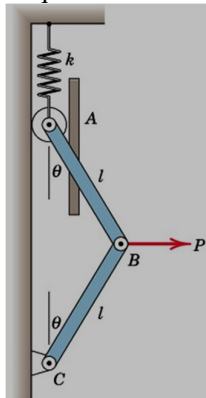

Fig. 1
Q. No. 1 The spring of constant k is unstretched when $\theta=0$ (Fig. 1). Derive an expression for the force P required to deflect the system to an angle θ . The mass of the bars is negligible.